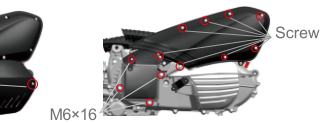

Figure 3
3. As shown in Figure 3, remove the 4 bolts marked 2 and remove the engine air inlet cover, then remove the engine air inlet filter.
5. As shown in Figure 3, remove the 8 screws and remove the air filter cover.